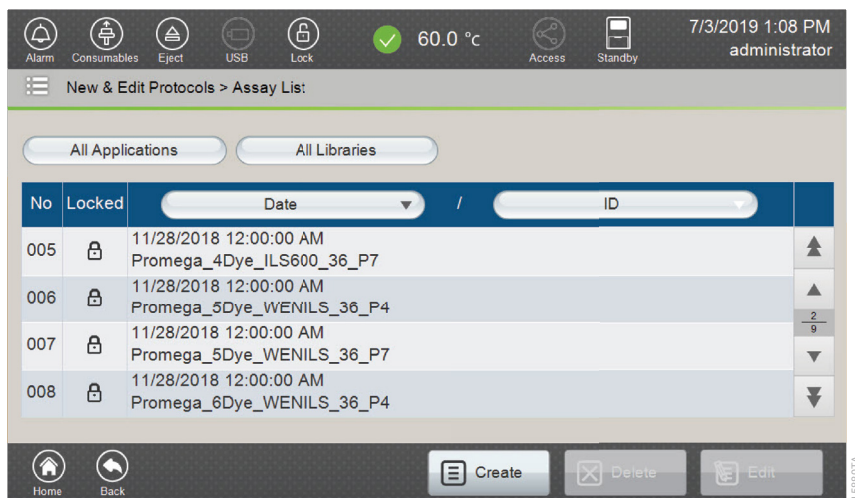

Figure 140. 'Assay List' screen.
- Select **Assay** in the 'New & Edit Protocols' screen (Figure 117). This opens the 'Assay List' screen (Figure 140).